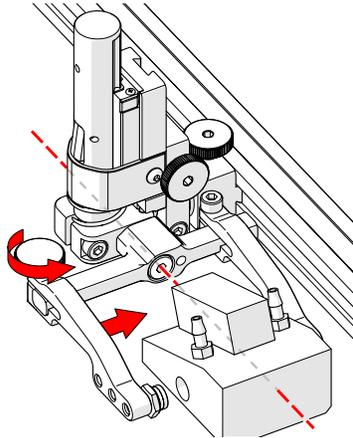

Fig. 47 - Adjust outer arm
6. Loosen the probe holder arm adjustment knob (Fig. 47) and slide the probe holder arm along the yoke pinching the wedge in place.